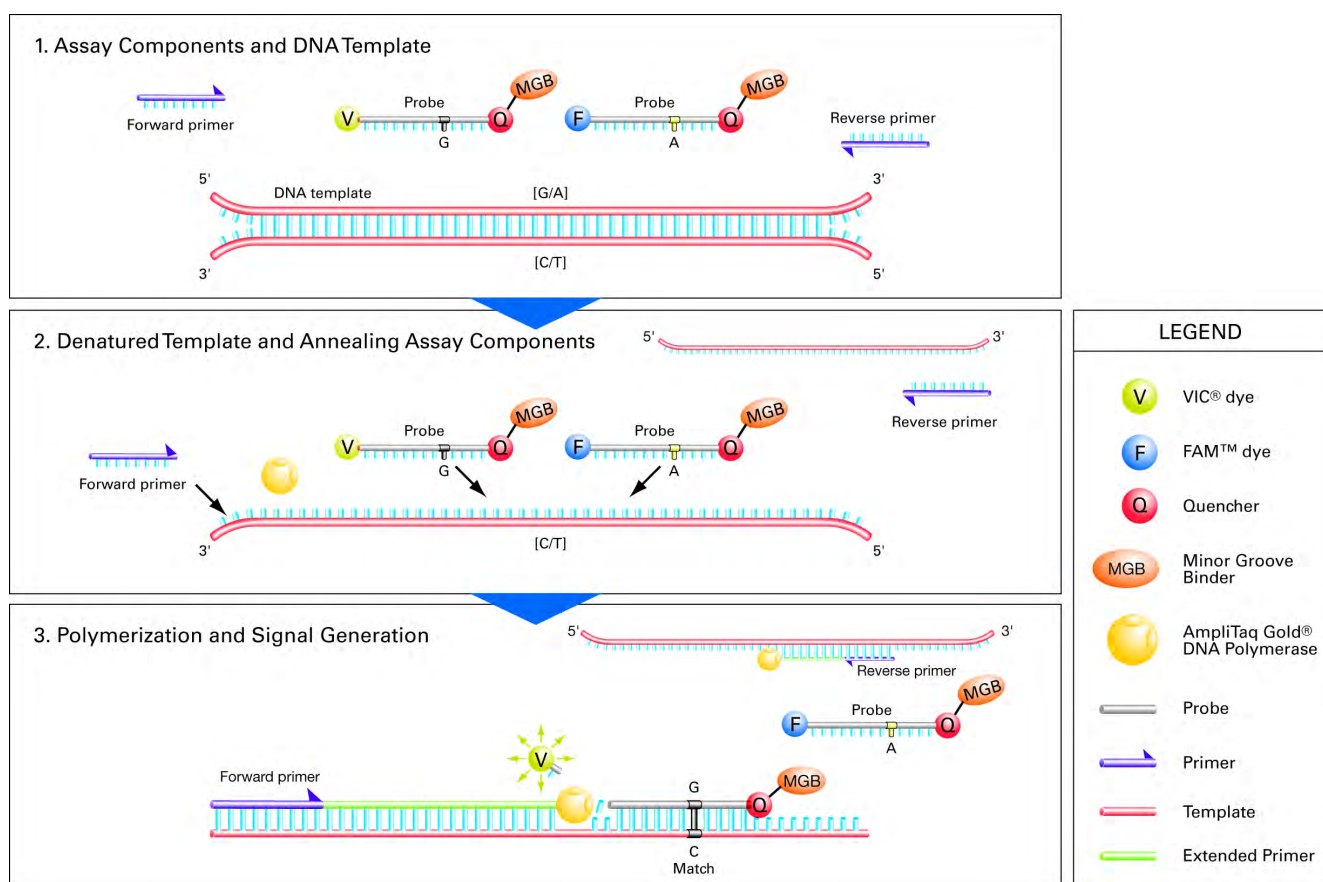

Figure 20 TaqMan® Reagents detection process
- 1 As shown in Figure 20, the exonuclease activity of AmpliTaq Gold® DNA Polymerase cleaves only probes hybridized to the target. Cleavage separates the reporter dye from the quencher dye, increasing fluorescence by the reporter.